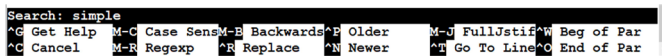

Figure 2.2 Search for word simple
- Let us search for text starting with the word **simple**: press **Ctrl+W**, type **simple** and press **Enter** (see Figure 2.2). You should see the cursor moving to the start of word **simple**. Delete **simple** and change it to **difficult**.